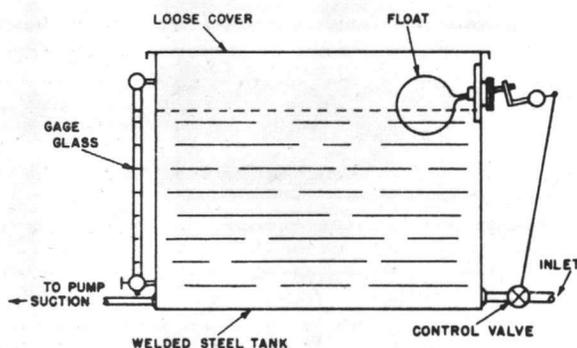

Figure 1. Typical Float Box Illustration
f. If long suction lines are unavoidable, use a float box or auxiliary feed tank (stand pipe) close to the suction side of the pump. A typical float box is shown in Figure 1. The float box may be calibrated and used to check pump capacity by measuring the time required to pump a specific quantity of fluid from the box.